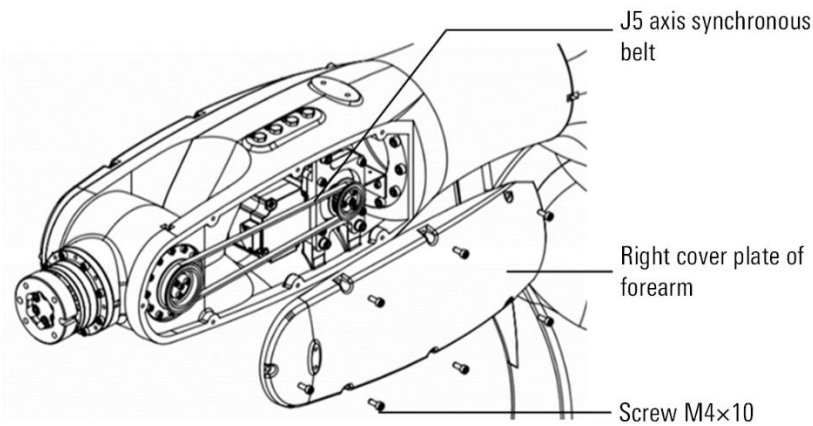

Figure 12-7 Remove the right cover plate of the forearm
Step3. Remove the manipulator forearm cover plate and 7 M4 screws, as shown in Figure 12-7.